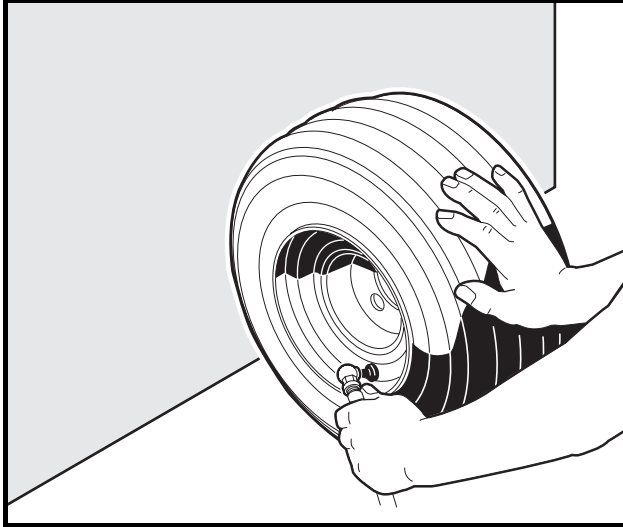

Figure 8-2 Inflate Tire
6. Place tire and wheel assembly against wall in upright position and push it against wall while inflating tire to 30-35 psi (2.07-2.42 Bars). The three-point contact (wall, floor, and hand) will help ensure that beads snap into place and form a proper seal as tire is inflated (**Figure 8-2, Page 8-4**). **See following WARNING.**